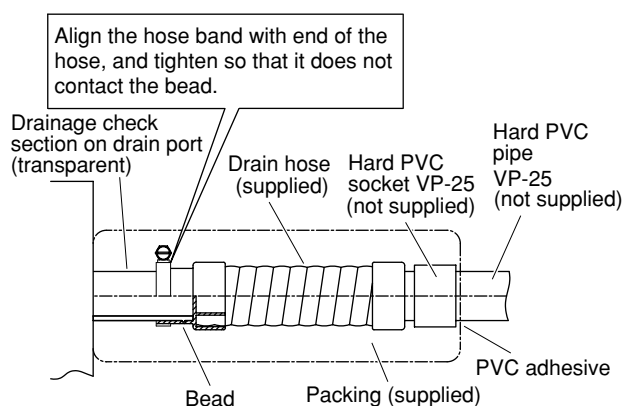

Fig. 3-41
When doing this, leave a gap between the drain socket and the PVC pipe to allow the drainage to be checked. The unit's transparent drain port allows you to check the drainage. (Fig. 3-41)
- Tighten the hose clamps so their locking nuts face upward. (Fig. 3-41)